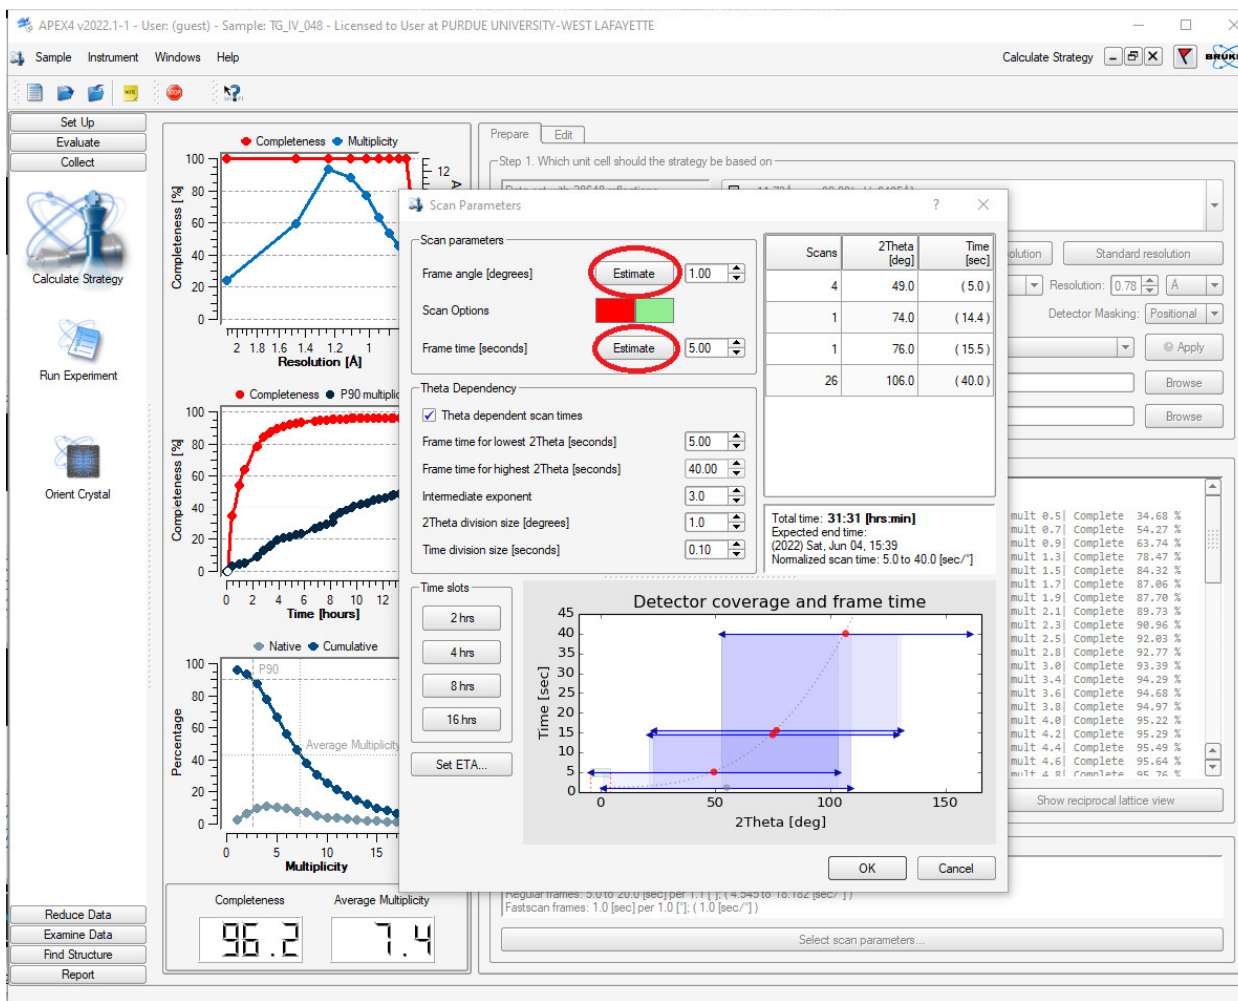

Figure 19, Strategy Window with Scan Parameters sub-window
- Under Step 3., click <Select Scan Parameters>. A popup window will emerge. Click the two <Estimate> buttons for “Frame angle” and “Frame time” to obtain (usually reasonable) suggested values (Fig 19).